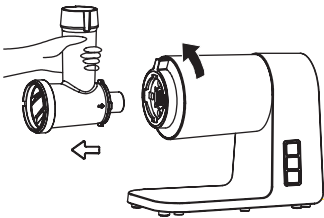

Figure 20.
5. Press the lock counterclockwise and remove the grinding head as illustrated in Figure 20.